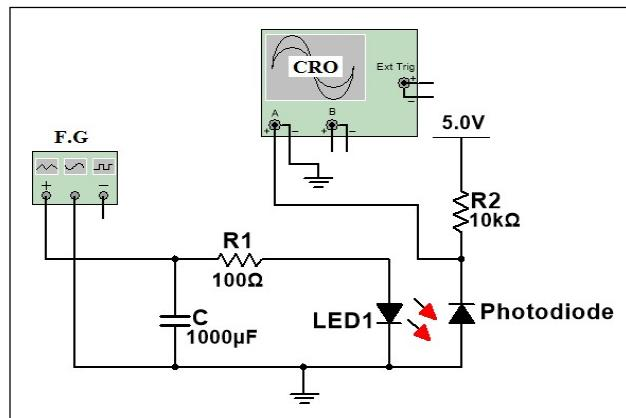

Figure 3.3 Schematic to Analyze Photodiode
- Connect the circuit as shown in the **Figure 3.3**.